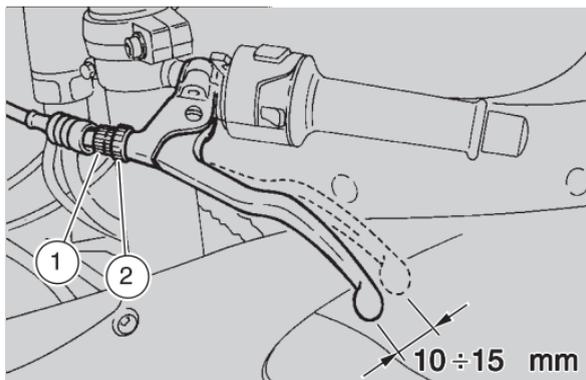

Fig. 18
Minor adjustments can be carried out by means of the adjuster (1-Fig. 18):
- loosen the lock nut (2-Fig. 18);
- turn the adjuster (1-Fig. 18) until the idle stroke at the clutch lever end is about **10÷15 mm** (see Fig. 18). Tighten the lock nut (2-Fig. 18) and check the adjustment.